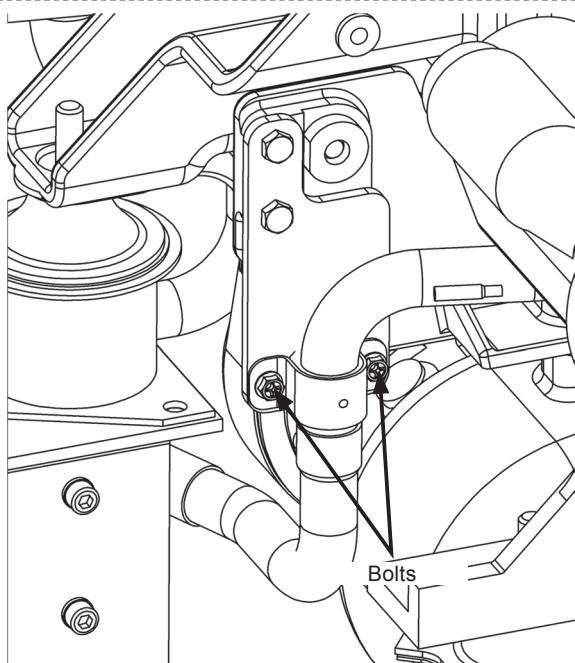

Figure 2 Removing tube fastener (rear side)
2) Remove the tube securing bracket (Figures 2 and 3).
**There is also tube-fixing plate on the rear panel side of the unit (Figure 2). Do not forget to remove that plate.**